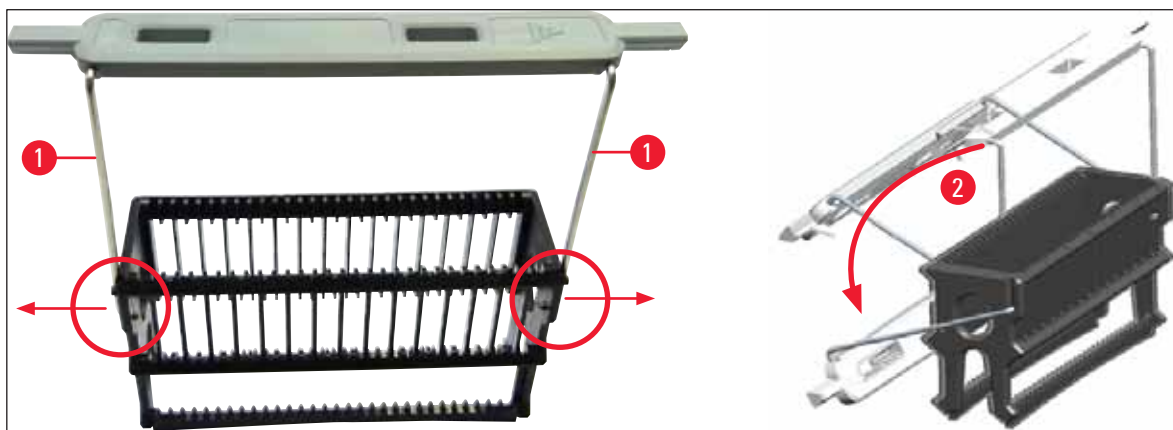

Fig. 69
- Be sure that the handle is correctly positioned in the upper position, centered above the rack (→ Fig. 69)